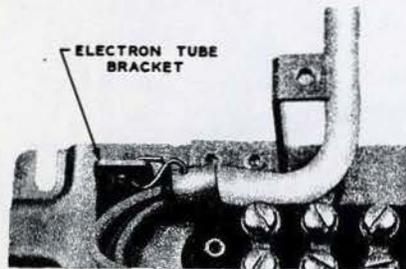

Fig. 16 - Method of Securing Mounting Cord in 685-Type Subscriber Set Networks
- 3.03** In 685-type subscriber sets, secure the mounting cord stayhook to the tube bracket as shown in Fig. 16.